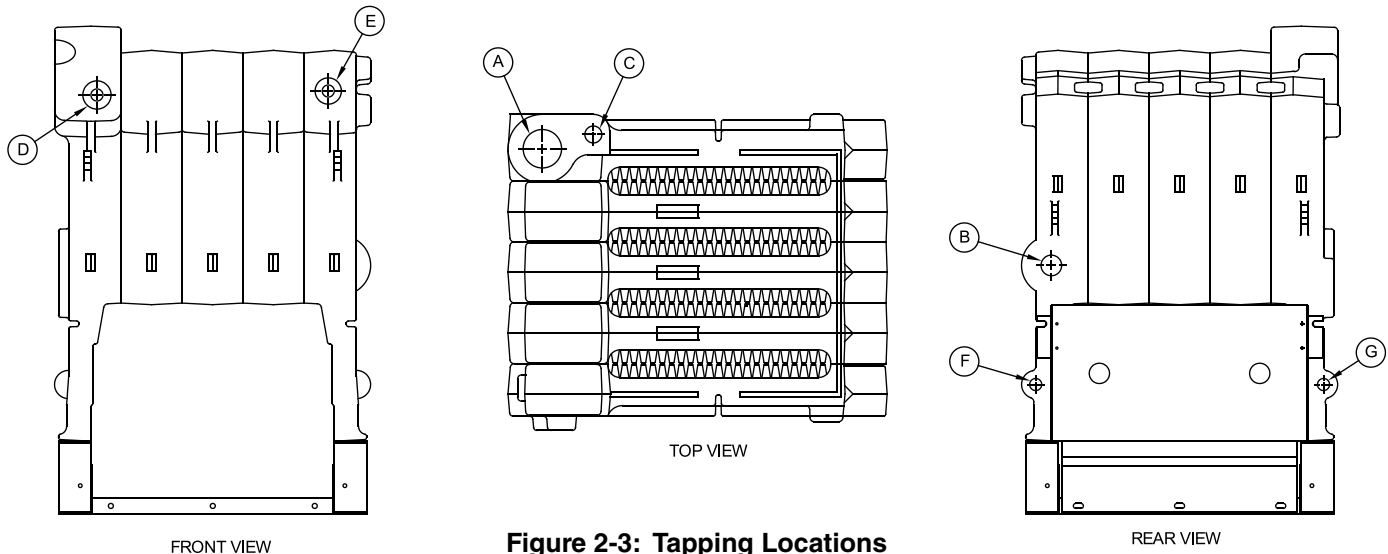

Figure 2-3: Tapping Locations
- D. Test Section Assembly for leaks before connecting to system and installing controls, trim and jacket. See Figure 2-3 and Table 2-2.
For testing gauge may be connected to permanent location in 2 in. NPT supply pipe as shown in Figures 3-4 and 3-5 or may be connected to a tapping that is unused for pressure testing, such as in Tapping C shown in Figure 2-3.
- Insert Electro-Well in Tapping D. See Figure 2-3.
1. Install $\frac{3}{4}$ in. NPT x $3\frac{1}{2}$ in. lg. nipple in tapping "C". See Figure 2-3.